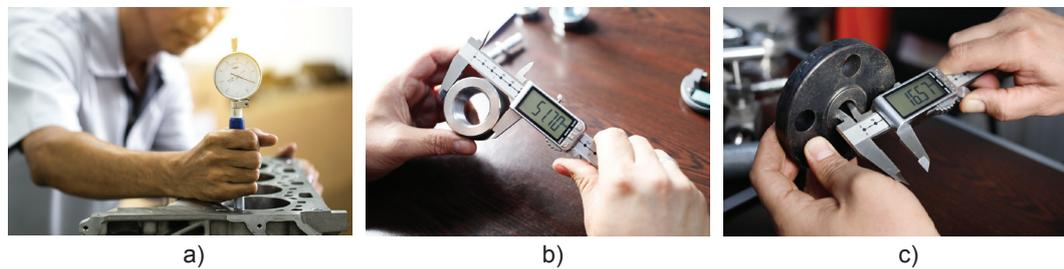

Figure 1.5: a) Dial bore gauge b) Digital vernier measuring the outer diameter c) Digital vernier calliper measuring the inside diameter
- **Dial bore gauge:** Gives an exact reading of a bore size (see Figure 1.5 a).